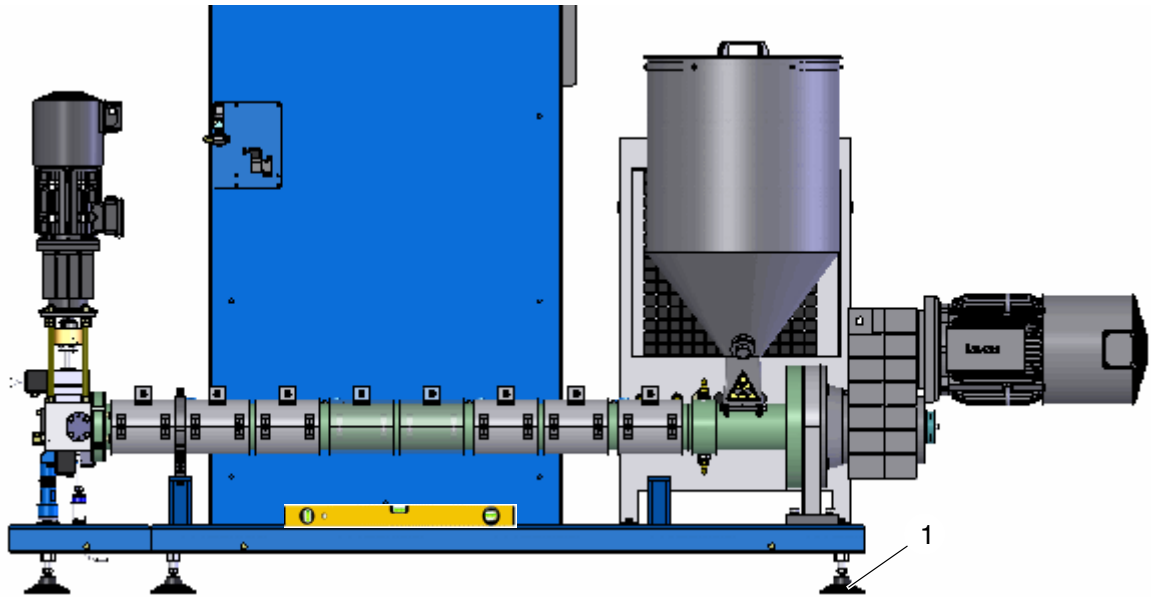

Fig. C-2 Longitudinal
1. Use a level  to check the frame and, if necessary, adjust the feet (1, Fig. C-2) to best suit the floor.